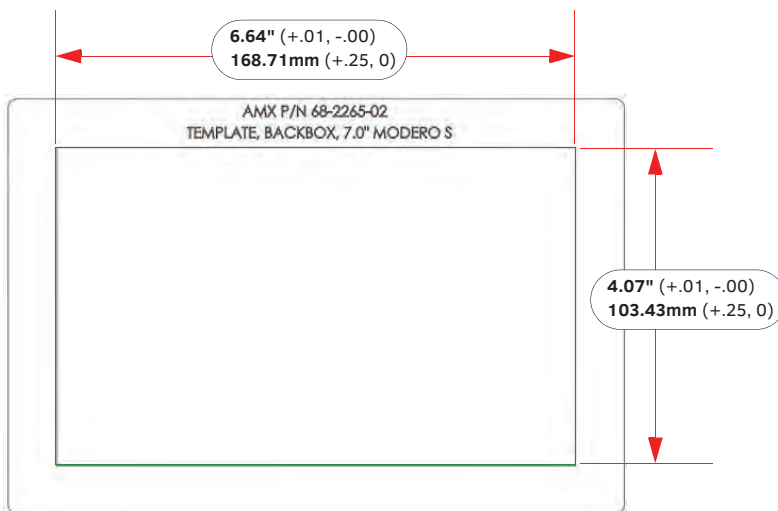

FIG. 24 MD-702 Cutout Dimensions
- **MD-702** - Template, Backbox, 7.0" Touch Panel (**68-2265-02** - see FIG. 24 on page 28)